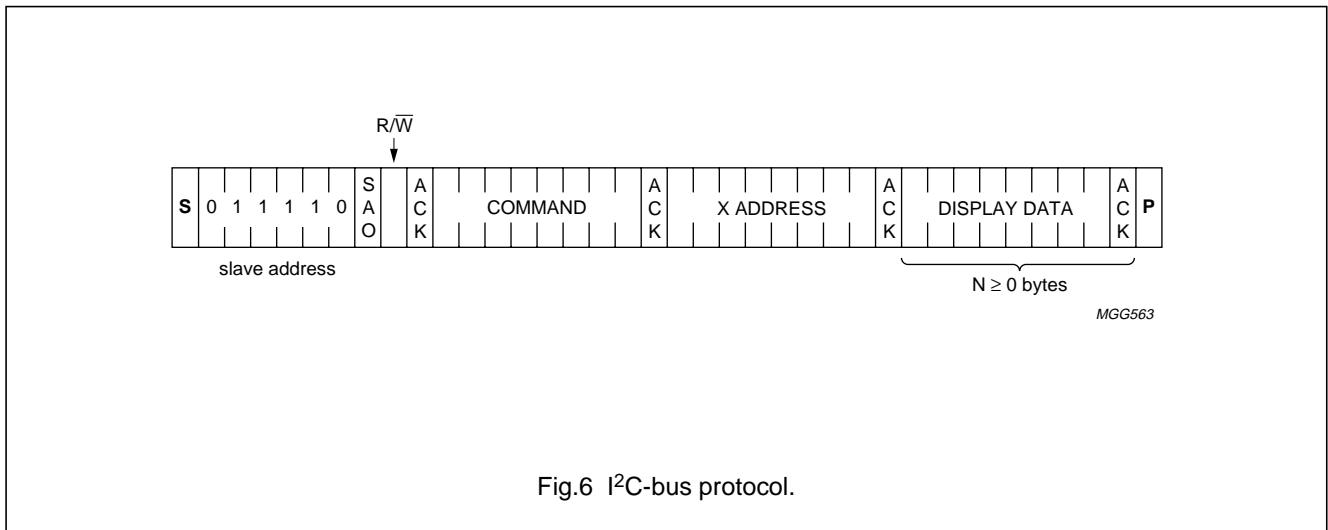

Fig.6 I²C-bus protocol.
The I²C-bus protocol is shown in Fig.6. All communications are initiated with a START condition (S) from the I²C-bus master, which is followed by the desired slave address and write bit. All devices with this slave address acknowledge in parallel. All other devices ignore the bus transfer.